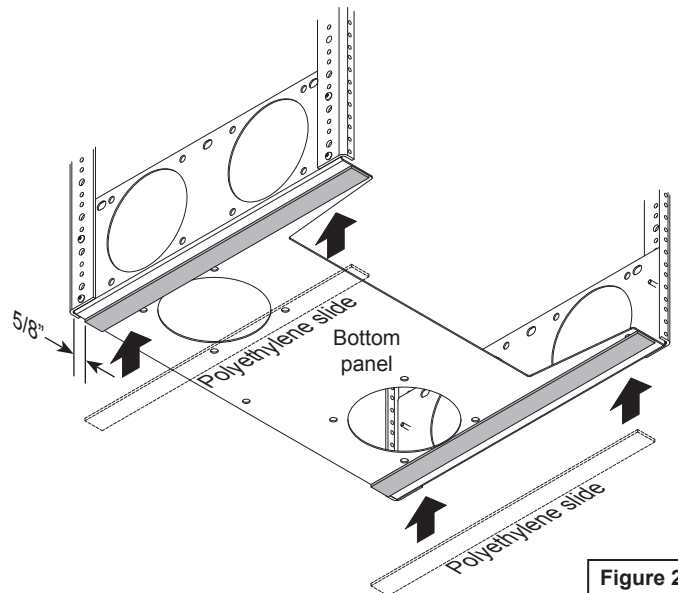

Figure 2
1. Apply the polyethylene slides to the bottom panel as shown. **Figure 2.**